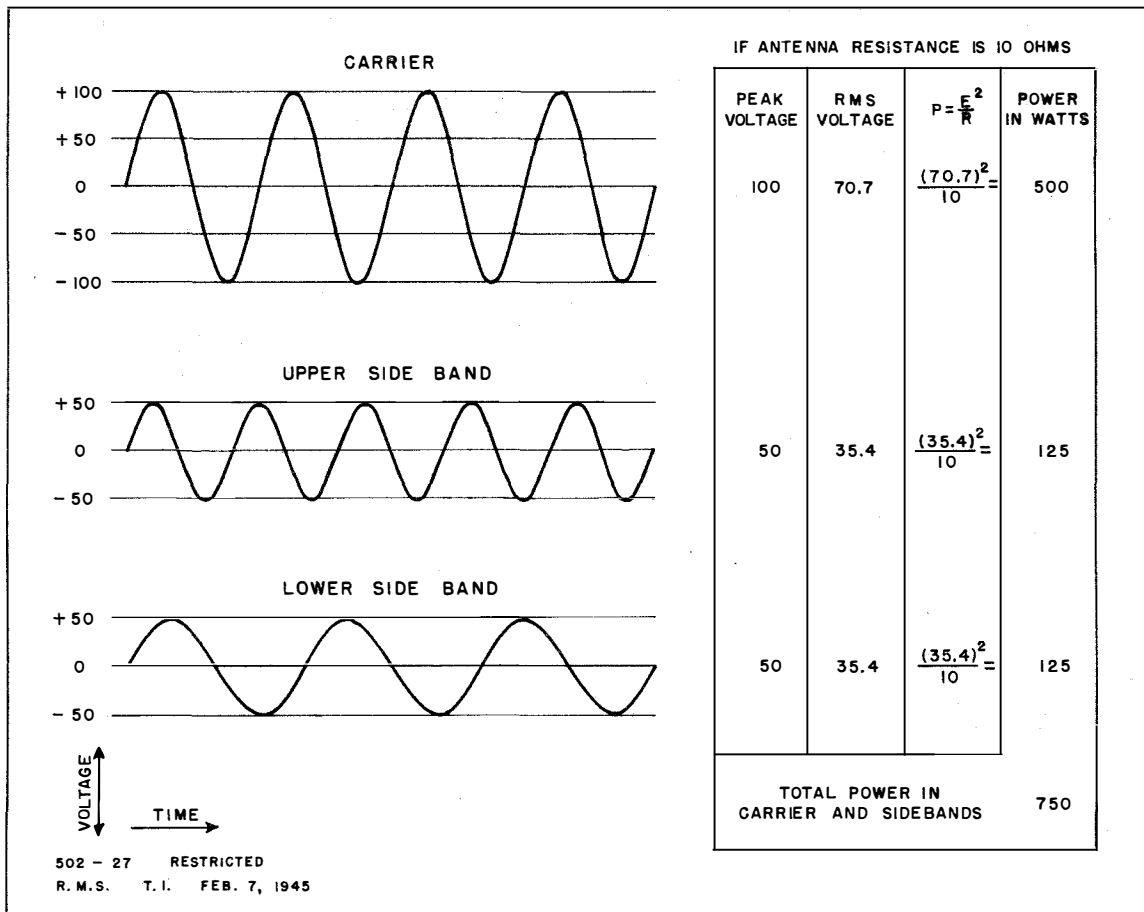

Fig. 27 Components of a modulated wave, showing side band power.
- (a) Fig. 27 shows side band power for 100% modulation.